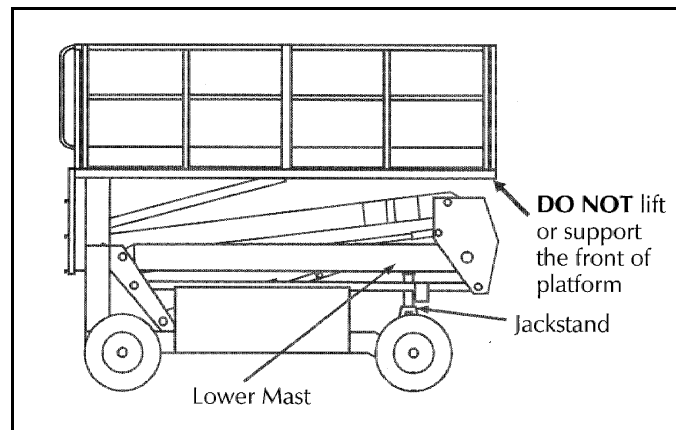

Figure 0-1: Blocking Elevating Assembly
0.4 BLOCKING ELEVATING ASSEMBLY (FIGURE 0-1)